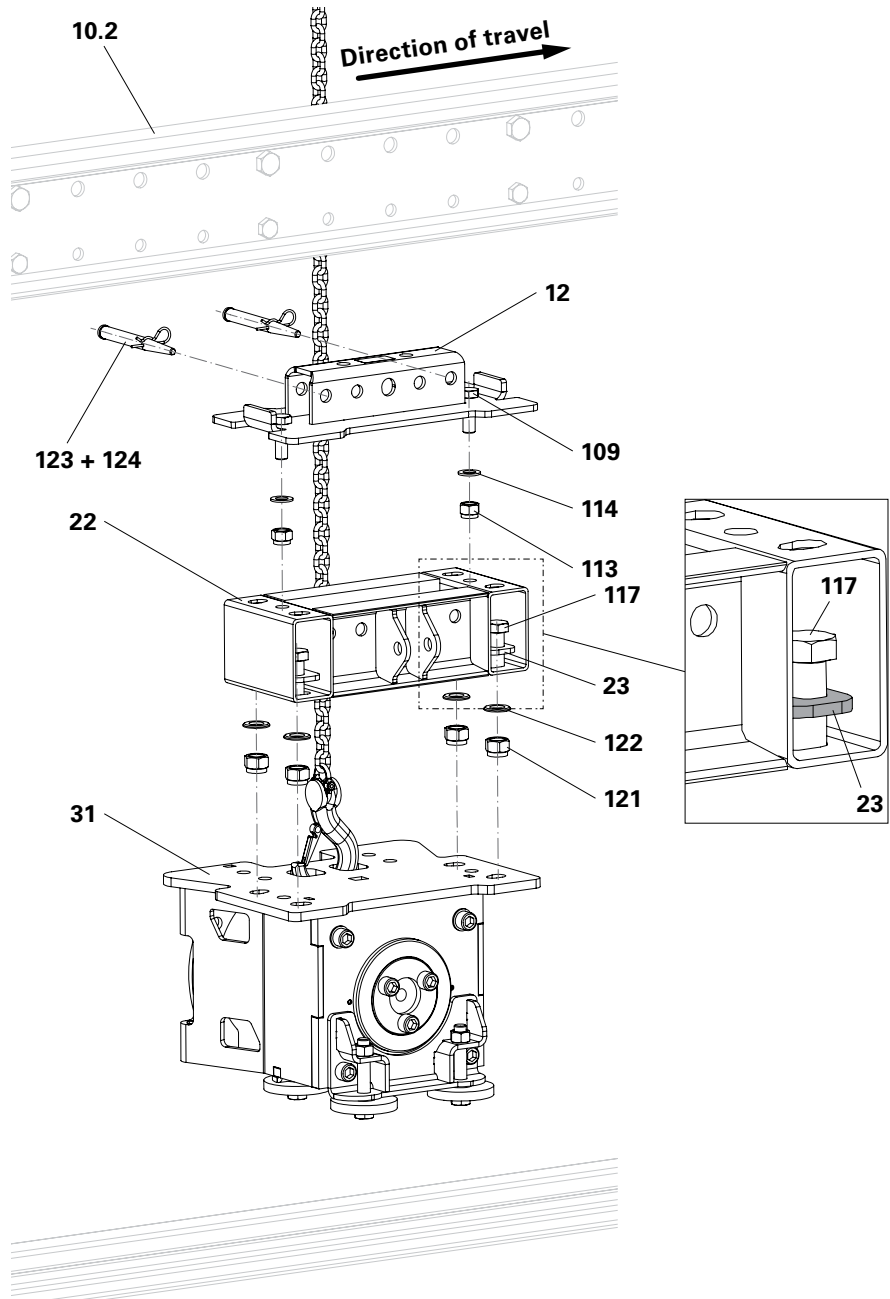

Fig. B3.12
1. Fix the Adapter RCS SLR (12) to the Pressure Frame (22) with bolts M20x60 (109), washers M20 (114) and self-securing nuts M20 (113).
2. Fix the assembly unit to the wheel block (31) with bolts M24x70 (117), Pressure Frame Assembly Kit (23), washers M24 (122) and self-securing nuts M24 (121).
4. Fix the assembly unit at the designated assembly position with fitting pins 21x120 (123) and secure with cotter pins 4/1 (124).
5. Remove crane lifting gear. (Fig. B3.12)